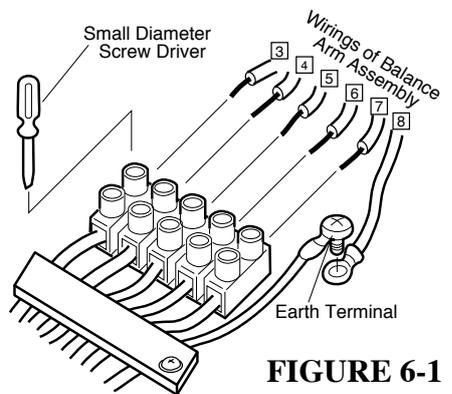

FIGURE 6-1
6. Loosen 5 screws on the terminal using a small dia. screw driver, and insert the wirings of balance arm assembly into the terminal according to the color. (FIGURE 6-1)